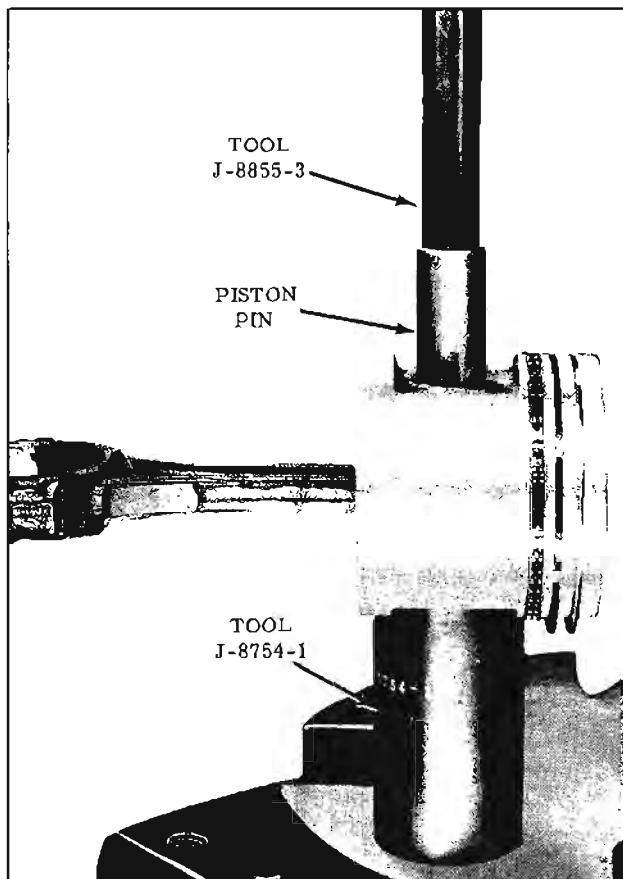

Fig. 8-135 Installing Piston Pin
3. Coat piston pin with SAE 10W30 oil. Place pin in piston as shown in Fig. 8-135. Press in piston pin with Tool J-8855-3 until it makes contact with guide stop Tool J-8751-2 in main body Tool J-8754-1. This will automatically center the pin in the piston. Pin to connecting rod fit is .0007" to .0013" tight.